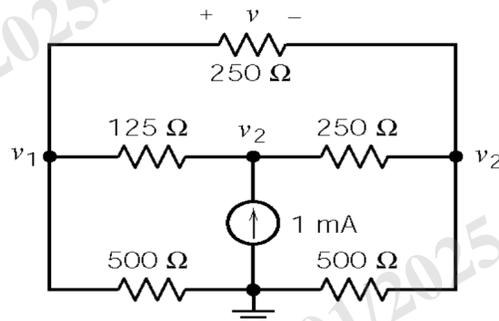

Fig. 2
- g) Determine the voltage v in the circuit shown in Figure 2. Use nodal analysis method.